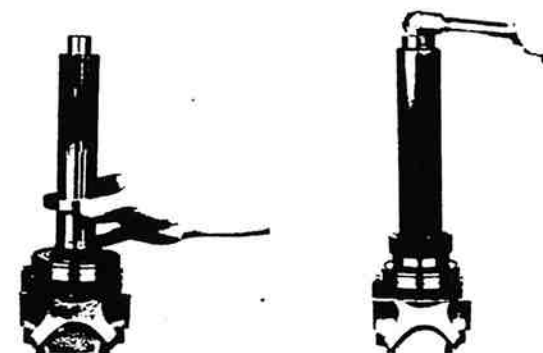

Figure 13-101. Bearing Nut Installation.
6. Install the bearing nut on shaft, left hand threaded, tightened to 250-300 ft. lbs. (339-407 Nm) torque (figure 13-101).